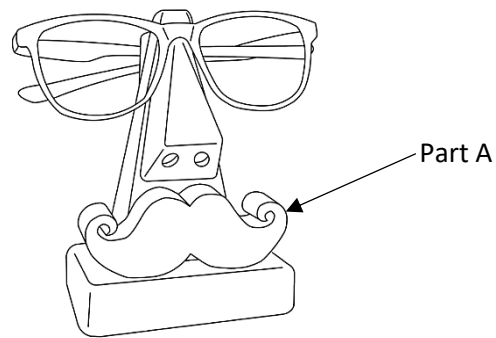

Figure 4
16. Figure 4 shows a polymer stand which is used to hold eyeglasses on display. Such stands were made using the 3D printing fabrication process.
c. The profile of Part A on Figure 4 was created by tracing the outline of a bitmap image and transform it into a vector image. Define what a bitmap image is.
d. Briefly explain how to digitally create the form marked as Part A on Figure 4 on a 3D drawing software.